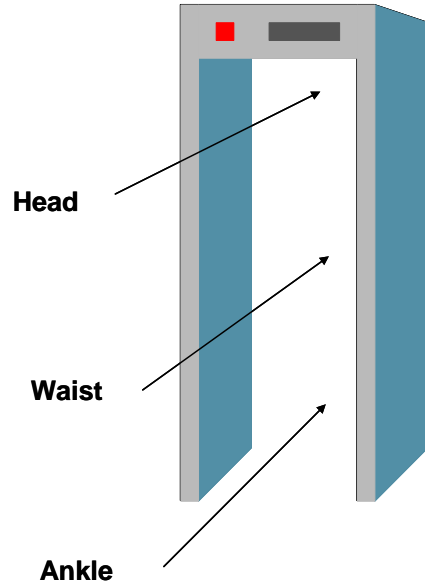

Figure 1: Test Locations for Performance Test
- Radiation and Metal Detection Portal (Figure 1)